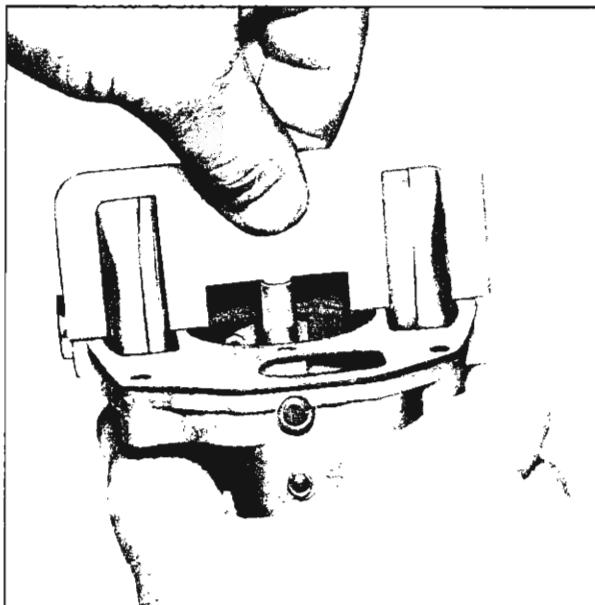

Fig. 8—Float Level Adjustment
4. Invert cover assembly and measure float level (fig. 8) using Tool J-21216. Bend float arms to adjust.